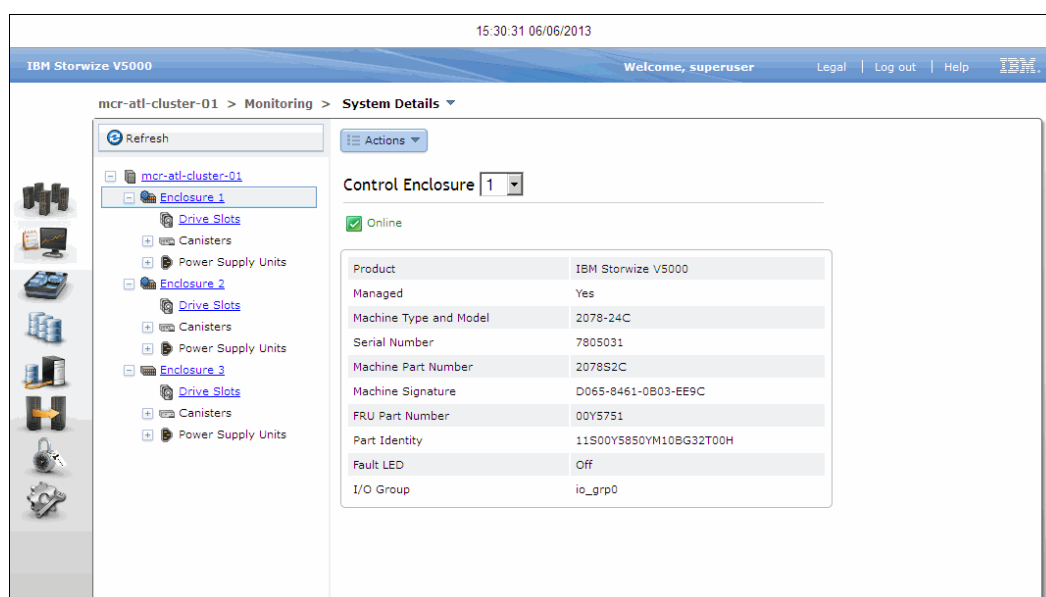

Figure 2-48 New expansion enclosure as part of the cluster
- The new expansion enclosure now is shown as part of the cluster that is attached to its control enclosure, as shown in Figure 2-48.